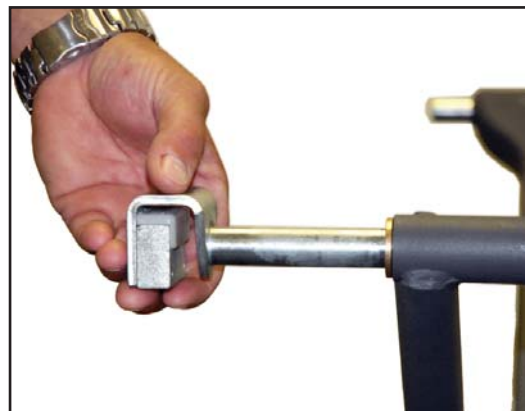

FIGURE 6.64
7. Slide the Slider Bearing Assembly free. Refer to **Figure 6.64**.